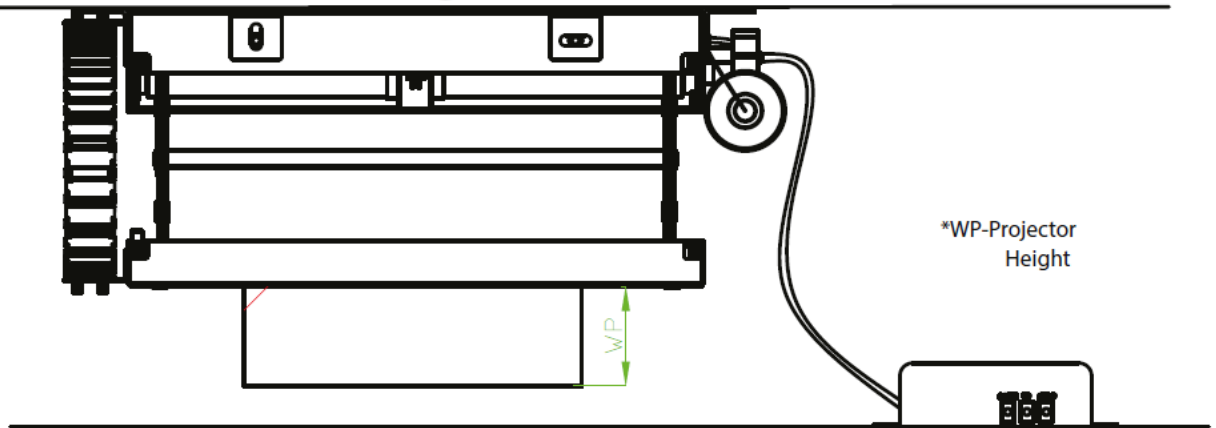

rys. 7c
b) Plug the control box harness as marked on picture below (fig. 7c). Put the electrical plug to the electrical network.